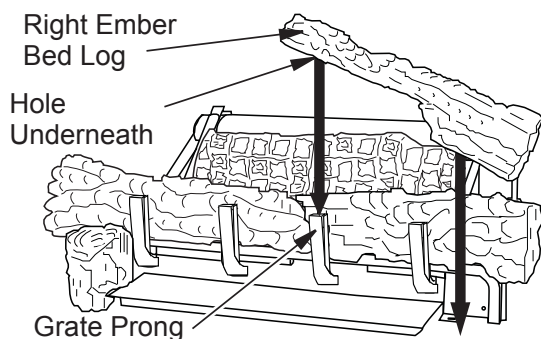

Figure 31 - Installing Right Ember Bed Log
4. The right ember bed log 24" & 30" (D-047) has a hole in the log that sets on the grate finger and the other end rests on the fire-place floor, place log as shown in **Figure 31, Page 19**. The right ember bed logs for 18" (D-072) has a groove on the side that sets on the ember bed pan and the back of the log needs to rest against the front of the base. Make sure the flame from the ember pan does not touch the ember bed log. The back side of this log needs to rest against the front of the base assembly, make sure the flame from the ember pan does not touch the ember bed log.